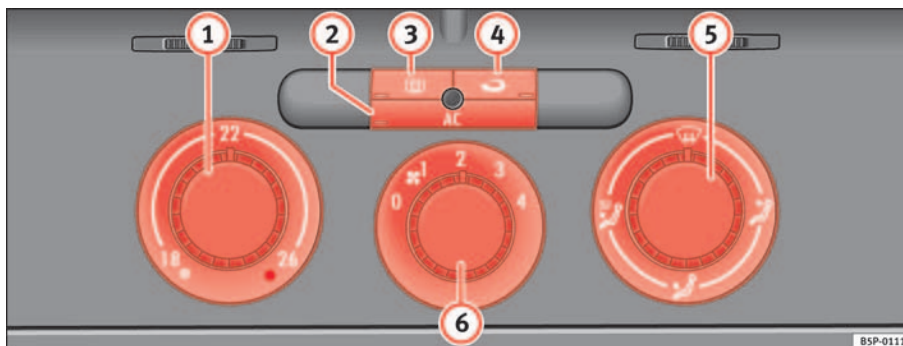

Fig. 124 On the dash panel: Climatic controls
- Using the controls ⇒ fig. 124 ① and ⑤ and the control ⑥ you can set the temperature, air distribution and the airflow.
- To switch a function on or off, press the appropriate button ②, ③ or ④. When the function is activated, the display window in the lower corner of the button is lit.
- ① Temperature selector ⇒ page 152.
- ② Button **AC** – Heating, ventilation and air-conditioning system on/off ⇒ page 152.
- ③ Button – Rear window heating. The heating will be switched off automatically approximately 20 minutes after switching on. It can also be switched off beforehand by pushing the button.
- ④ Button – Air recirculation mode ⇒ page 153.
- ⑤ Air distribution control ⇒ page 152.
- ⑥ Blower switch. There are four speed settings for the airflow. The airflow should always be set at the lowest speed when driving slowly.
- Switch on the air conditioner using the button ⇒ page 151, fig. 124 .